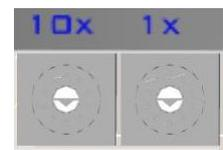

**Figure 8: Cable connection for Profibus-DP**
- The BUS-H and BUS\_L pins must be connected to the same twisted pair (see Figure 8); the cable shield should be connected to the connector chassis.